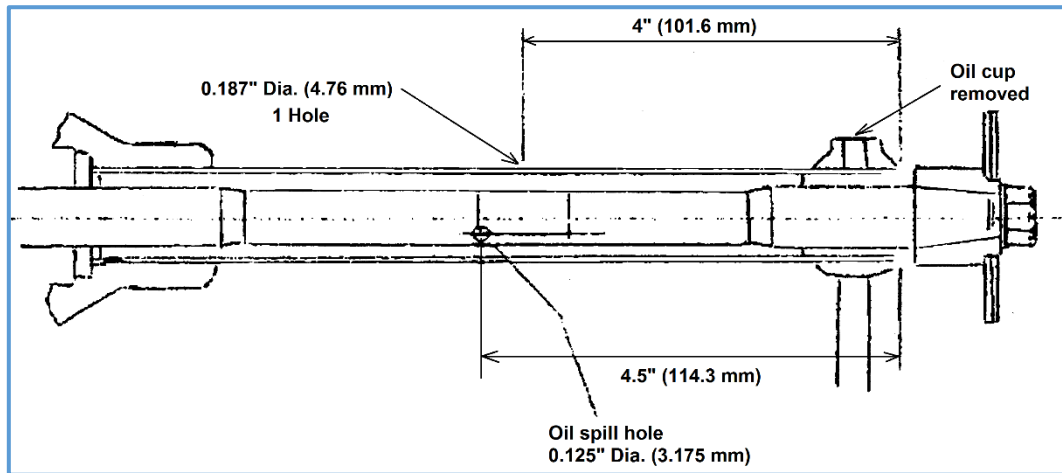

Figure 1. Dimensions for drilling fan support tube.
1. Remove the oil filler tube and modify to the dimensions given at (A), so that it will clear the cooler. See *Figure 1, Page 37.*
2. Shape the dipstick to the dimensions at (B), so that it clears the oil cooler when being withdrawn or being replaced. See *Figure 1.*
3. Remove the radiator grille and remove the deflector plate as shown at (C) *Figure 1.* Cut away the portions of the grille portions as shown, so that there is clearance between the oil cooler and the Grille. If the grille is of the early type with the chromium-plated louvres, no modification to the louvres is required, but it will be necessary to remove the brace frame, and to fabricate and fit a modified brace frame, as shown in *Figure 2.* on this page.
4. To fit the cooler, remove the captive nuts at the rear of the mudwing and drill the lower cooler brackets to coincide with the existing holes in the mudwing and secure with two 1/4" x 1" BSF bolts and nuts with the distance pieces positioned between the lower cooler brackets and the mudwing as shown at (D) in *Figure 1.*
Drill the grille frame corner pieces and top cooler bracket holes and secure with the use of two 1/4" x 5/8" BSF bolts as shown at (E) in *Figure 1.*
5. Fit the cooler pipes in position as shown in *Figure 1,* using the existing banjo bolts and fibre washers at the rear timing cover connections.
From approximately Javelin Engine Number E2 PD 21016 and Jupiter Engine Number E2 SA 717 the distributor type DKY H4A, Part Number 50773, is replaced by the DM2 type, Part Number J54516, which embodies a micrometer adjustment unit. The mounting flange on the timing cover is modified to suit the new type distributor securing plate and the new type timing cover, Part Number 54662, has also been changed. The DM2 distributor may be fitted to the old type timing cover by increasing the width of the elongated hole in the securing plate as shown in *Figure 1*.
Right: Figure 1. Installation of securing plate on early type timing cover.